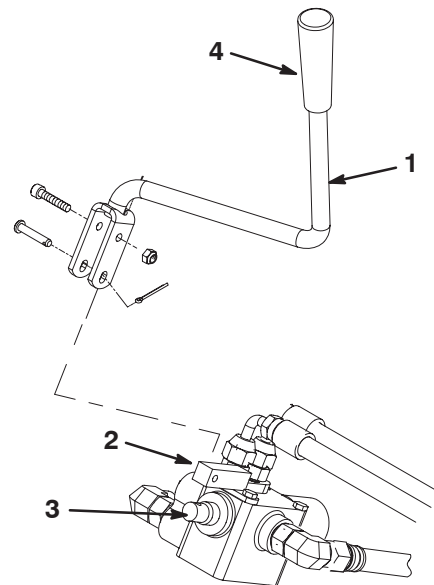

Figure 8
13. Mount the control valve handle to the valve spool with a clevis pin and cotter pin. Mount the pivot lever to the handle with a socket head screw and lock nut (Fig. 8).
14. Install the control knob to the handle (Fig. 8).